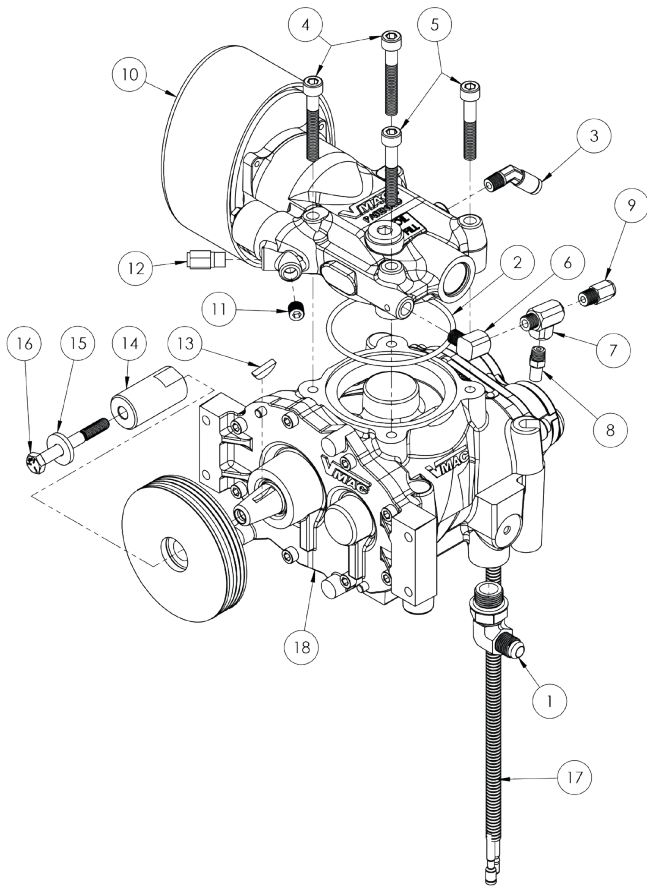

Figure 89 — Compressor Assembly (P190004)
3. Compressor Assembly, P190004 (Figure 89)